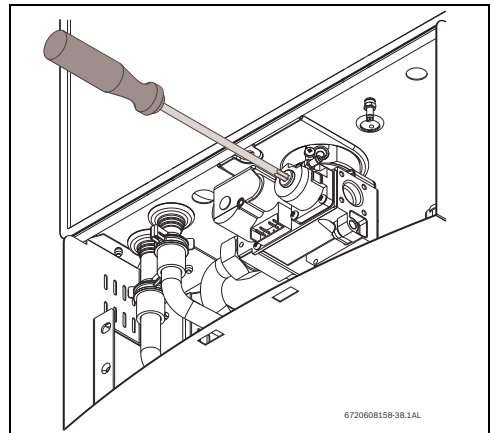

Fig. 75 Adjusting P2 CO2 level
- ▶ Remove yellow painted #40 Torx cover from the front of the gas valve. (fig. 75) A plastic #40 Torx screw will be revealed.